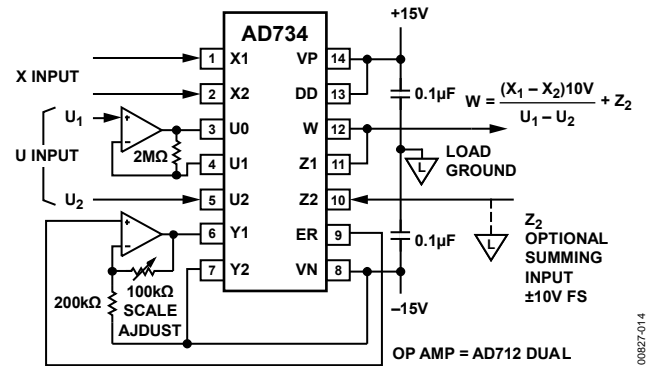

Figure 31. Two-Quadrant Divider with Fixed 10 V Scaling
in Figure 31, where a fixed numerator of 10 V is generated for a divider application. Y2 is tied to VN, but Y1 is 10 V above this; therefore, the common-mode voltage at this interface is still 5 V above VN, which satisfies the internal biasing requirements (see Table 1).
Where a numerator of 10 V is needed, to implement a two-quadrant divider with fixed scaling, the connections shown in Figure 31 can be used. The reference voltage output appearing between Pin 9 (ER) and Pin 8 (VN) is amplified and buffered by the second op amp, to impose 10 V across the Y1/Y2 input. Note that Y2 is connected to the negative supply in this application. This is permissible because the common-mode voltage is still high enough to meet the internal requirements.